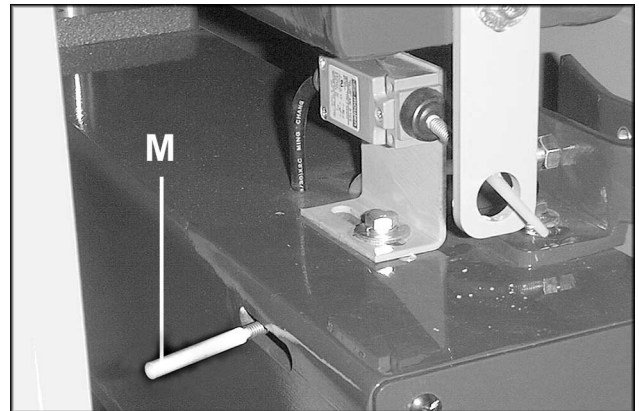

FIGURE 17
2. Notice the arrow on the inside of the belt. When operating, the arrow must turn in a counter-clockwise direction as shown in Figure 8. Slide the belt onto the three rollers, positioning it between the two limit switches (shown in Figure 17).
Mechanical limit switches (M, Fig. 17) on each side of the belt activate the pneumatic brake should the belt wander off track. This will shut down the sander rapidly to avoid fraying the belt.